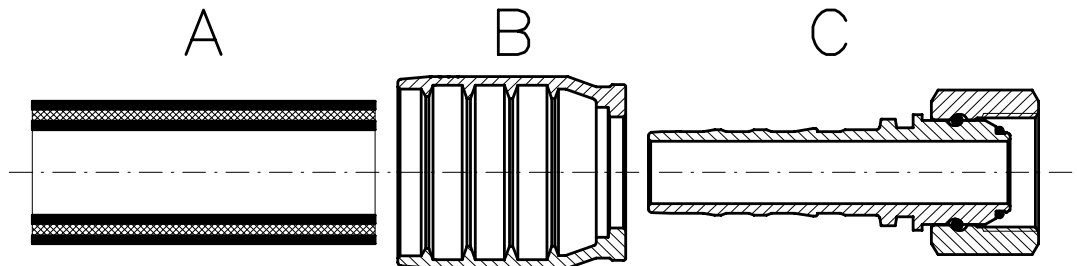

Figure 1
- 1- Select the specified hose (A), ferrules (B) and inserts (C) listed in the latest release of TIEFFE hose connectors catalogue. (See Figure 1)